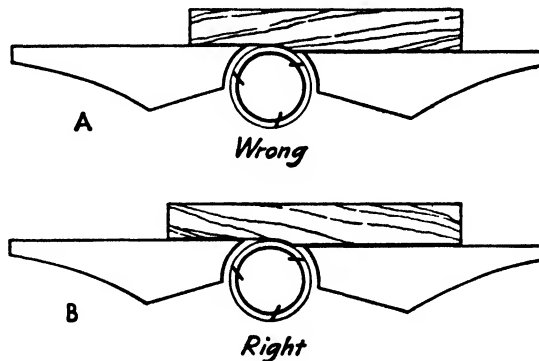

Fig. 5-4. Wherever possible, joint with the grain.
1. Where possible, joint with the grain (see Fig. 5-4).